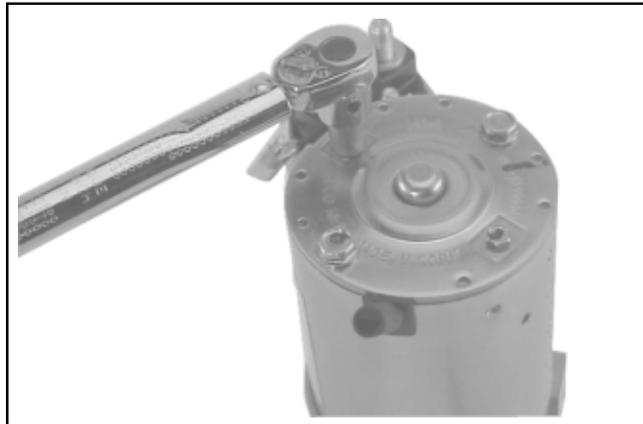

**Figure 8-66. Installing Brush Holder Assembly using Tool with Extension.**
- d. Hold the starter assembly vertically on the end housing, and carefully place the tool (with extension) and assembled original brush holder assembly onto the end of the armature shaft. Slide the brush holder assembly down into place around the commutator, install the positive (+) brush lead grommet in the cutout of the frame. See Figure 8-66.